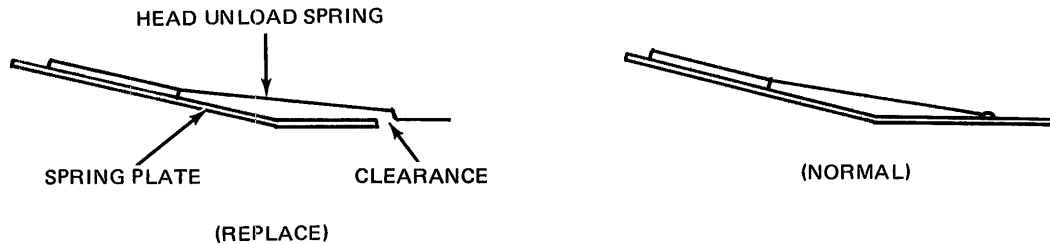

Figure 4-3 Head Unload Spring in Relation to Spring Plate
- e. After the collet assembly is in place, check that there is no clearance between the head unload spring and the spring plate (see Figure 4-3). If there is clearance, replace collet assembly with a new one.